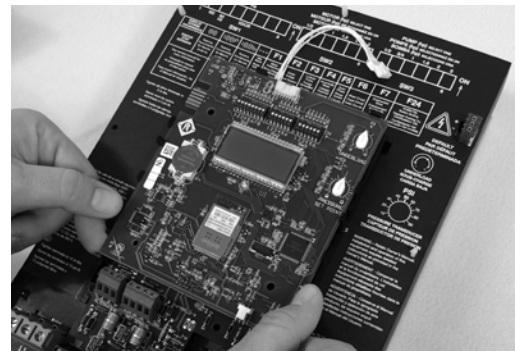

Figure 3A
5. Slightly pull back on all four of the retention clips on the display board. Gently pull up on the display board to disengage the connector between the display board and the enhanced pressure input board (Figures 3A and 3B).